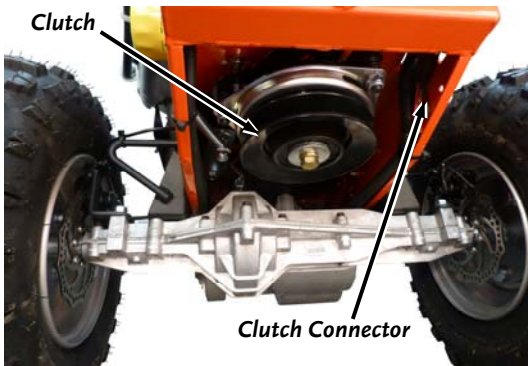

Figure 27
1. Remove the Brush Deck (See section "Removing the Brush Deck" on page 10) and tip the machine back on its handlebars to access the Clutch Connector under the machine (**Figure 27**).